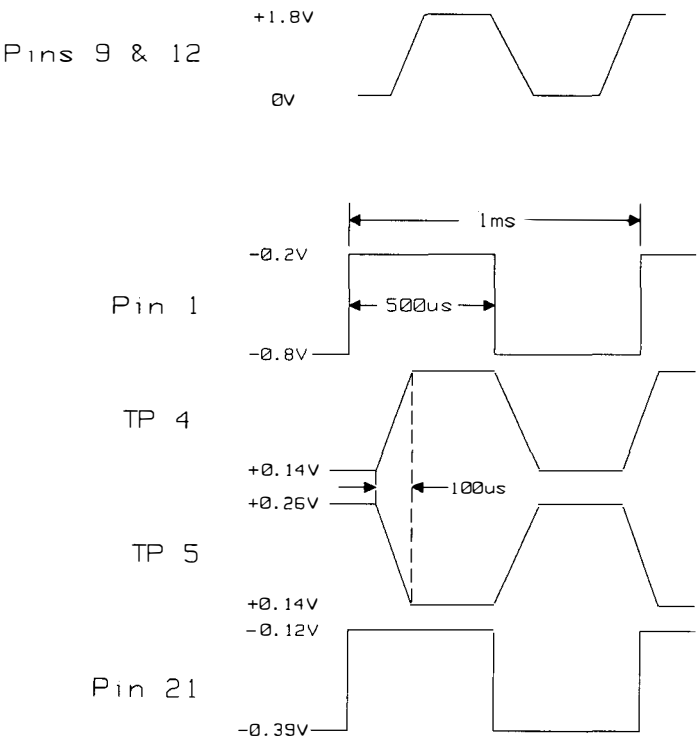

Figure 10.3-16. Slope Generator Input and Output signals
- 2. Check the input signal from the width generator at pin 1 of U301 against Figure 10.3-16
- 3. Check the ramp current input at pins 9 and 12 of U301 against Figure 10.3-16
- 4. Check the signals being sent to the shaper IC (waveforms at TP1, TP4 and pin 21 of U301) against Figure 10.3-16.